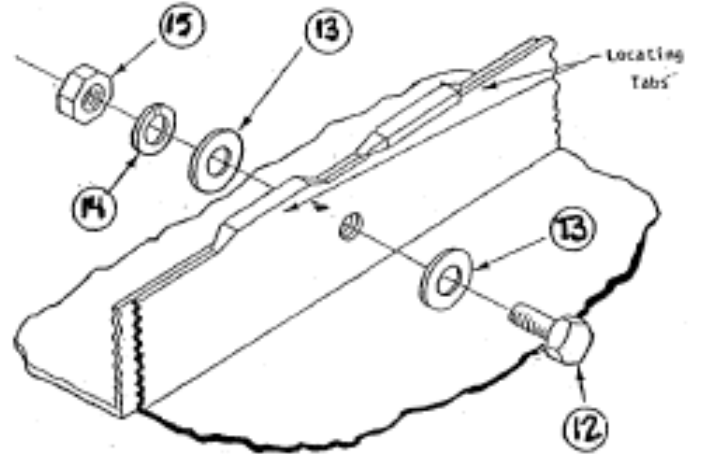
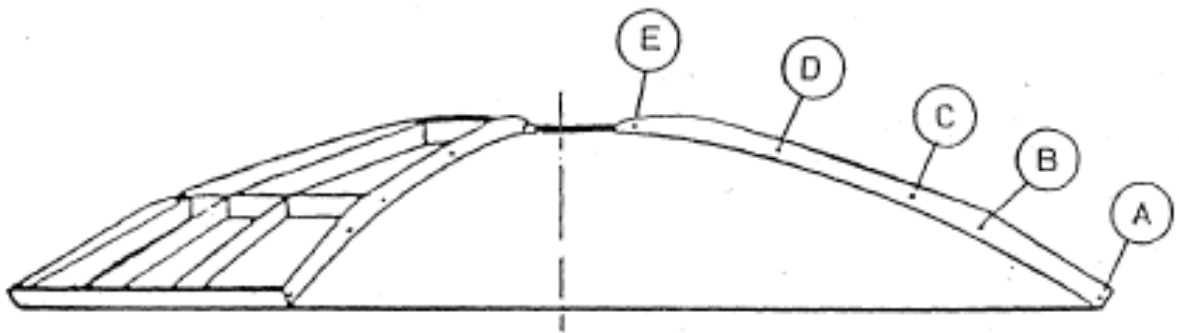

FIGURE 2.2-2
FIGURE 2.2-1
1. Place two petals (item #1) rim down on the level surface with their flanges next to each other. The petals are free-standing with the rim down and the center up (figure 2.2-1). Begin assembly of the flange with the 3/8 hardware (item #'s 12,13,14,15) as shown in figure 2.2-2. You will notice that the hardware is a close fit in the reflector holes. This insures an accurate assembly of the reflector petals. If necessary, gently tap or thread the hardware through these holes. Only install hardware at location A,B,D and E of figure 2.2-1 at this time. This hardware may be fully tightened now.